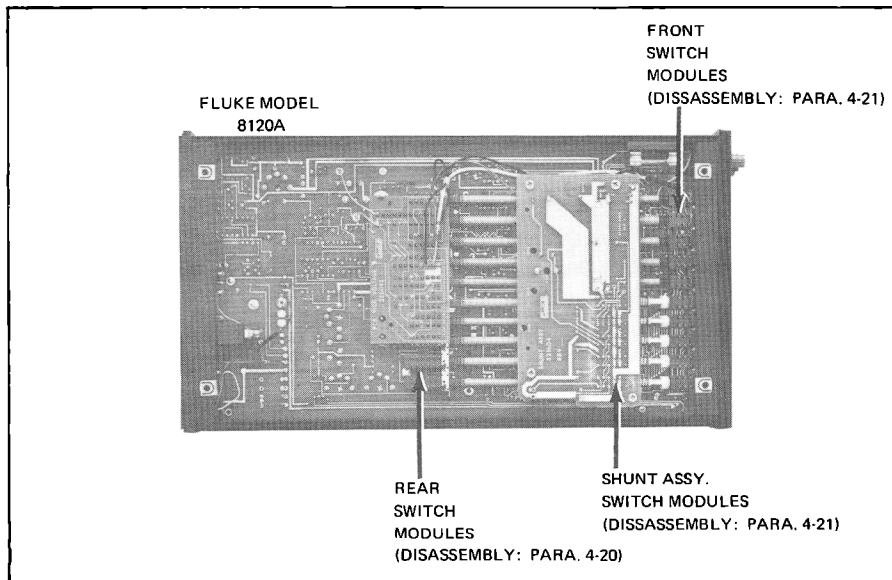

Figure 4-1. SWITCH MODULE LAYOUT AND CORRESPONDING DISASSEMBLY PROCEDURES
- c. If switch contacts are to be serviced, locate which of the 24 switch modules is to be disassembled (Figure 4-1) and refer to the corresponding disassembly procedure.